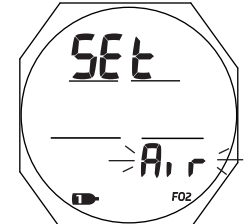

Fig. 37A - SET GAS 1 (FO2 for Air)
**Set Gas 1**, information includes (Fig. 37A, B, C):